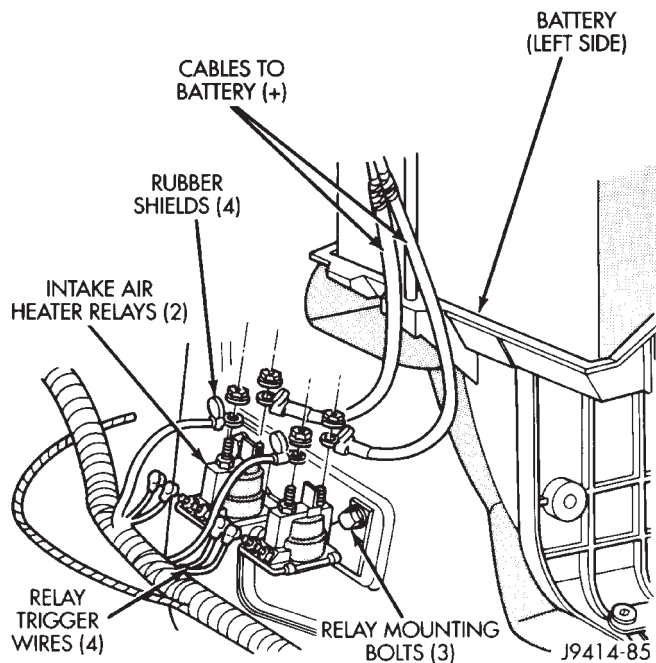

Fig. 36 Intake Manifold Air Heater Relays
The relays are located in engine compartment, bolted to left inner fender below left battery (Fig. 36).
- (1) Disconnect both negative battery cables at both batteries.
- (2) Disconnect four relay trigger wires at both relays (Fig. 36). Note position of wiring before removing.
- (3) Lift four rubber shields from all 4 cables (Fig. 36).
- (4) Remove four nuts at cable connectors (Fig. 36). Note position of wiring before removing.
- (5) Remove three relay mounting bracket bolts (Fig. 36) and remove relay assembly.